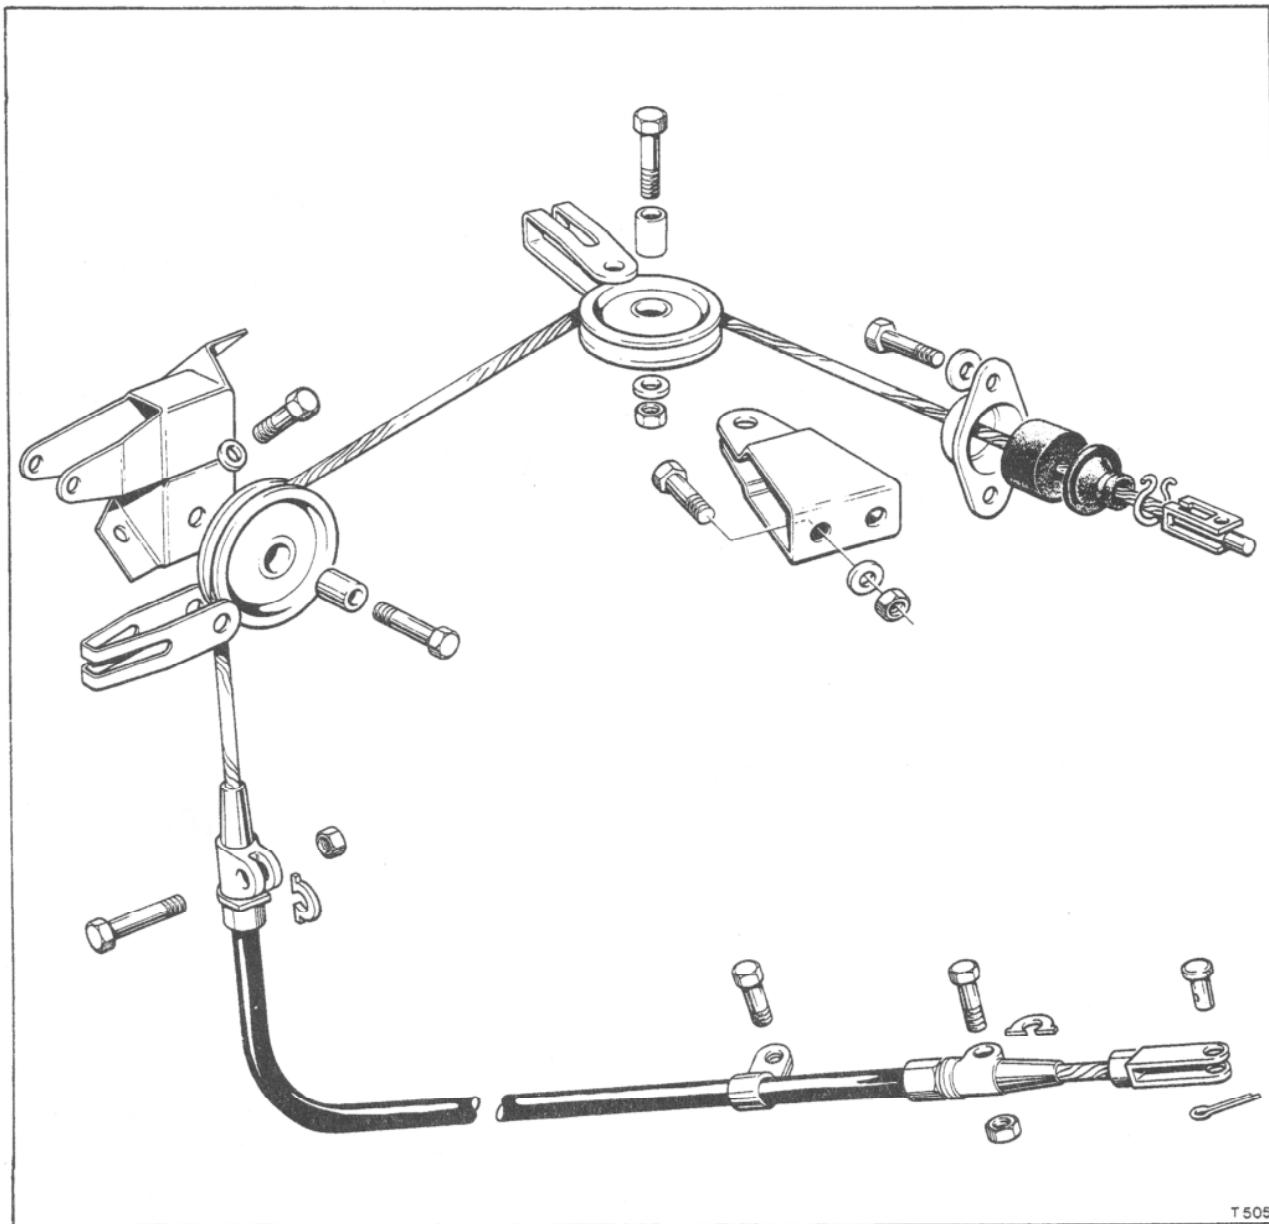

Fig. G45 Parking brake front cable and pulleys (Right-hand drive cars)
4. Remove the two brake cable guide pulleys; collect the distance tube from the centre of each pulley (see Fig. G45).